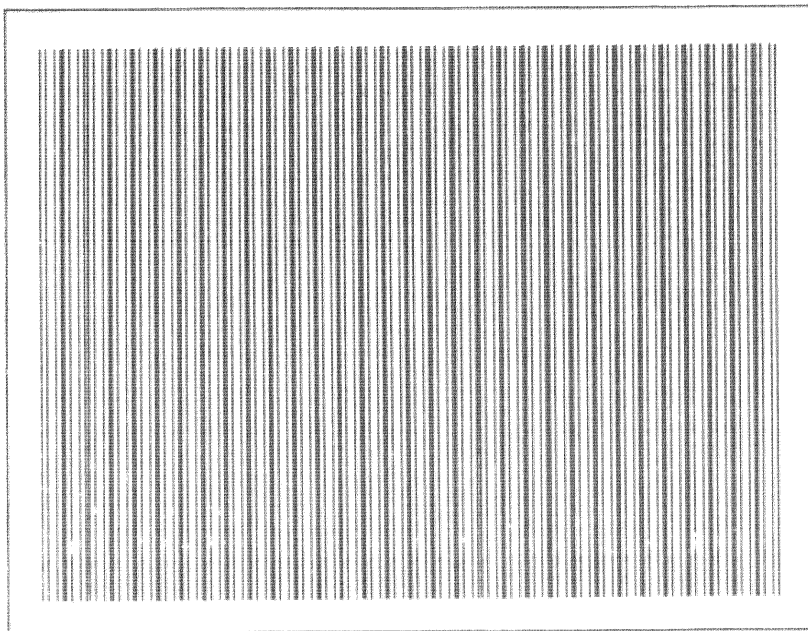

Figure 8-2. CRT Test Pattern 1
- a. Vertical bars (CRT test pattern 1), as shown in figure 8-2. These bars remain on the screen for about 13 seconds.